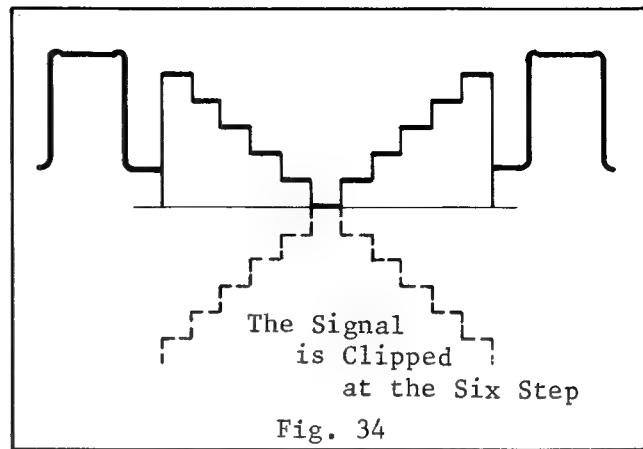

Fig. 34
3. Adjust the gamma reference voltage control, VR307, so that the signal is clipped at the six step from the bottom as shown in Fig. 34.
4. Then, connect the oscilloscope to the connector P306-pin (1) and observe the NTSC signal at H. rate.